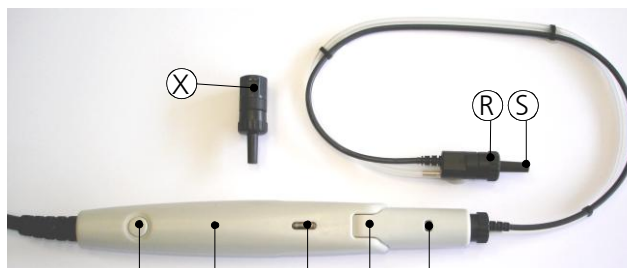
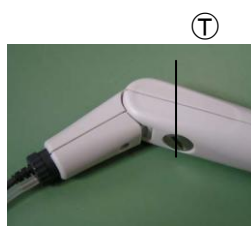

Figure 8 MI 24 probe with additional screening probe tip ⑩
Figure 9
The probe of the MI 24 is shown in figure 8. The probe head is adjustable in three steps (0°, 60° und 80°). It is adjusted by releasing the fixation screw (Figure 9 ①) at the bottom of the probe a few turns, using a coin or a screw driver. Adjust the probe head ② by pulling it into the required position until it rests. To do this hold the probe handle ③ with the other hand. After it is set to the required position fasten the fixation screw ① again.